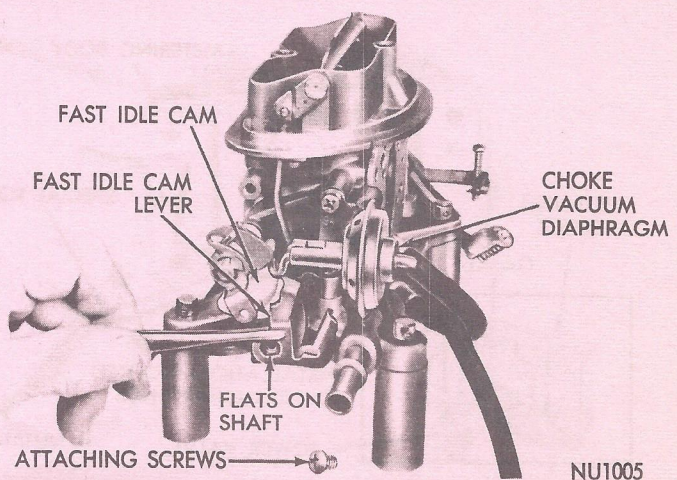
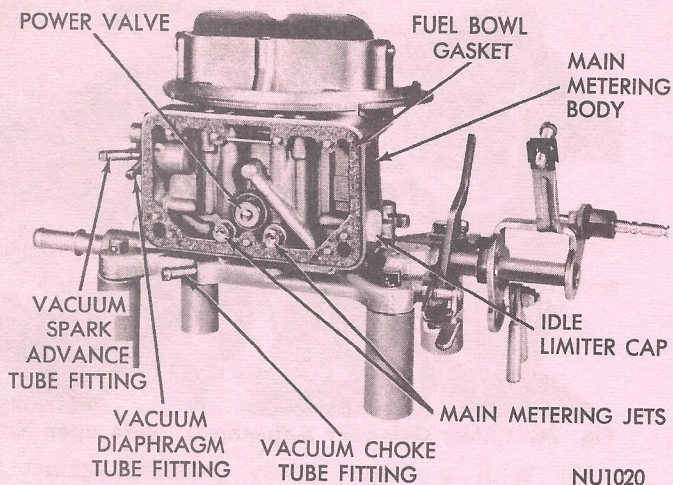

Fig. 6—Removing or Installing Fast Idle Cam Lever
Fig. 21—Metering Body Installed
(10) Slide choke unloader lever over flats on throttle shaft. (Be sure lever is installed in such manner so that tab rides on cam steps (Fig. 6).
(11) Engage choke link in slot in fast idle lever, then place choke diaphragm on main body. Install attaching screws and tighten securely.
(12) Install new gaskets on front and rear of metering body, then install in position on main body with jets toward outside (Fig. 21).
(13) Slide new seal washers over fuel bowl mounting screws. Install screws through fuel bowl and metering body. (Be sure all gaskets are aligned, then tighten screws to 50 inch pounds). Make sure accelerator pump lever is under adjusting screw of accelerating pump operating lever.